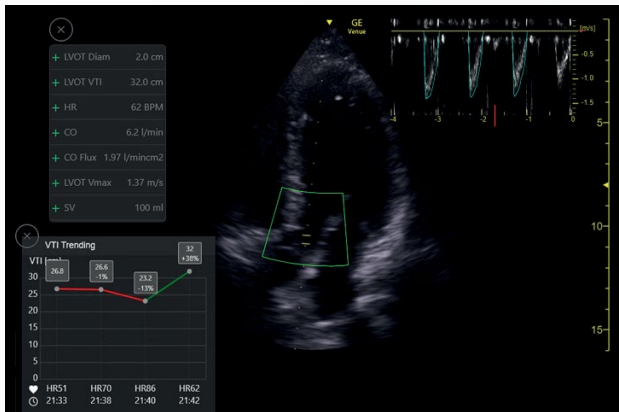

Figure 5: Auto VTI Tool with VTI Trending Function enabled.
2. Activate Auto VTI tool (Fig. 5).
VTI measurements can be repeatedly taken over time with the Auto VTI tool plotting results on the trending diagram (Fig. 5). VTI Trending helps clinicians quickly visualize the trend and determine a next course of action.